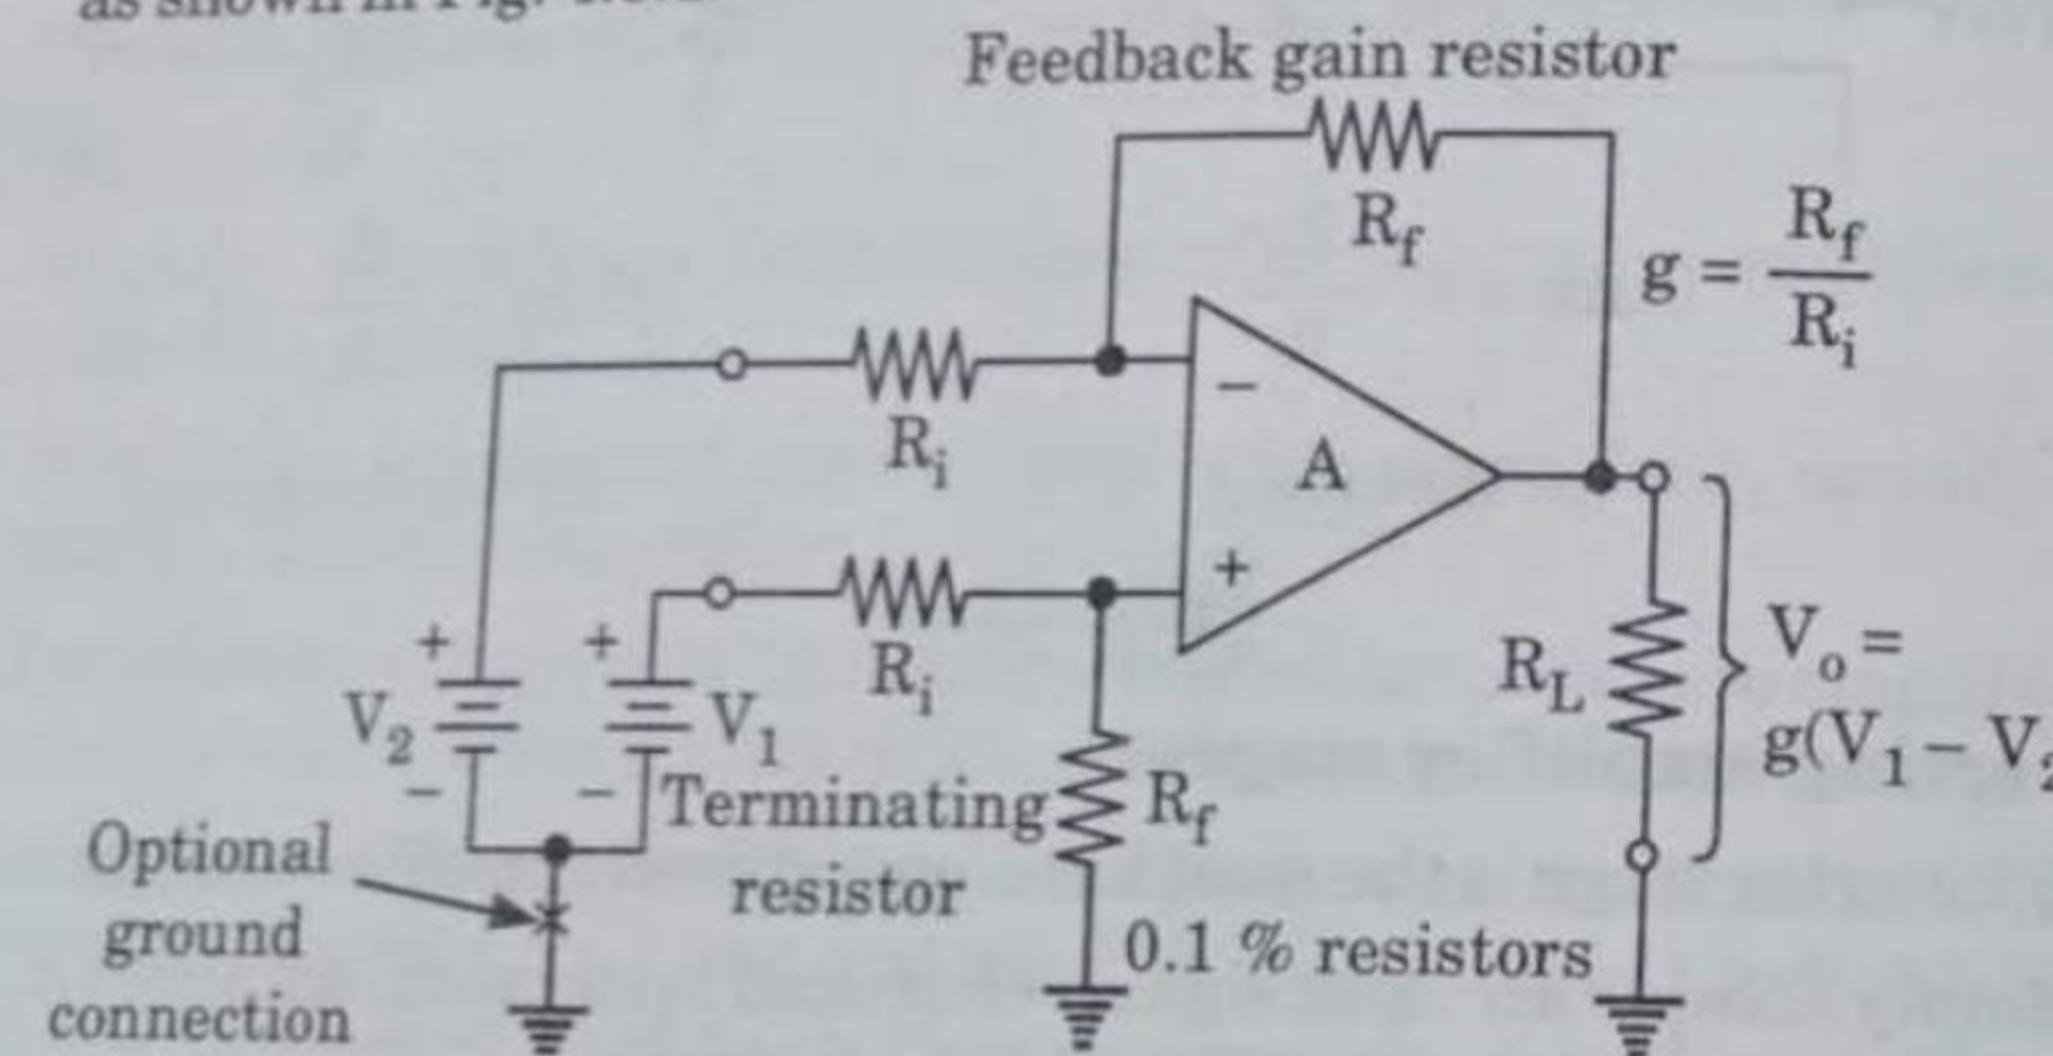

Fig. 4.8.1.
- It appears as a combination of the inverting and non-inverting amplifiers as shown in Fig. 4.8.1.